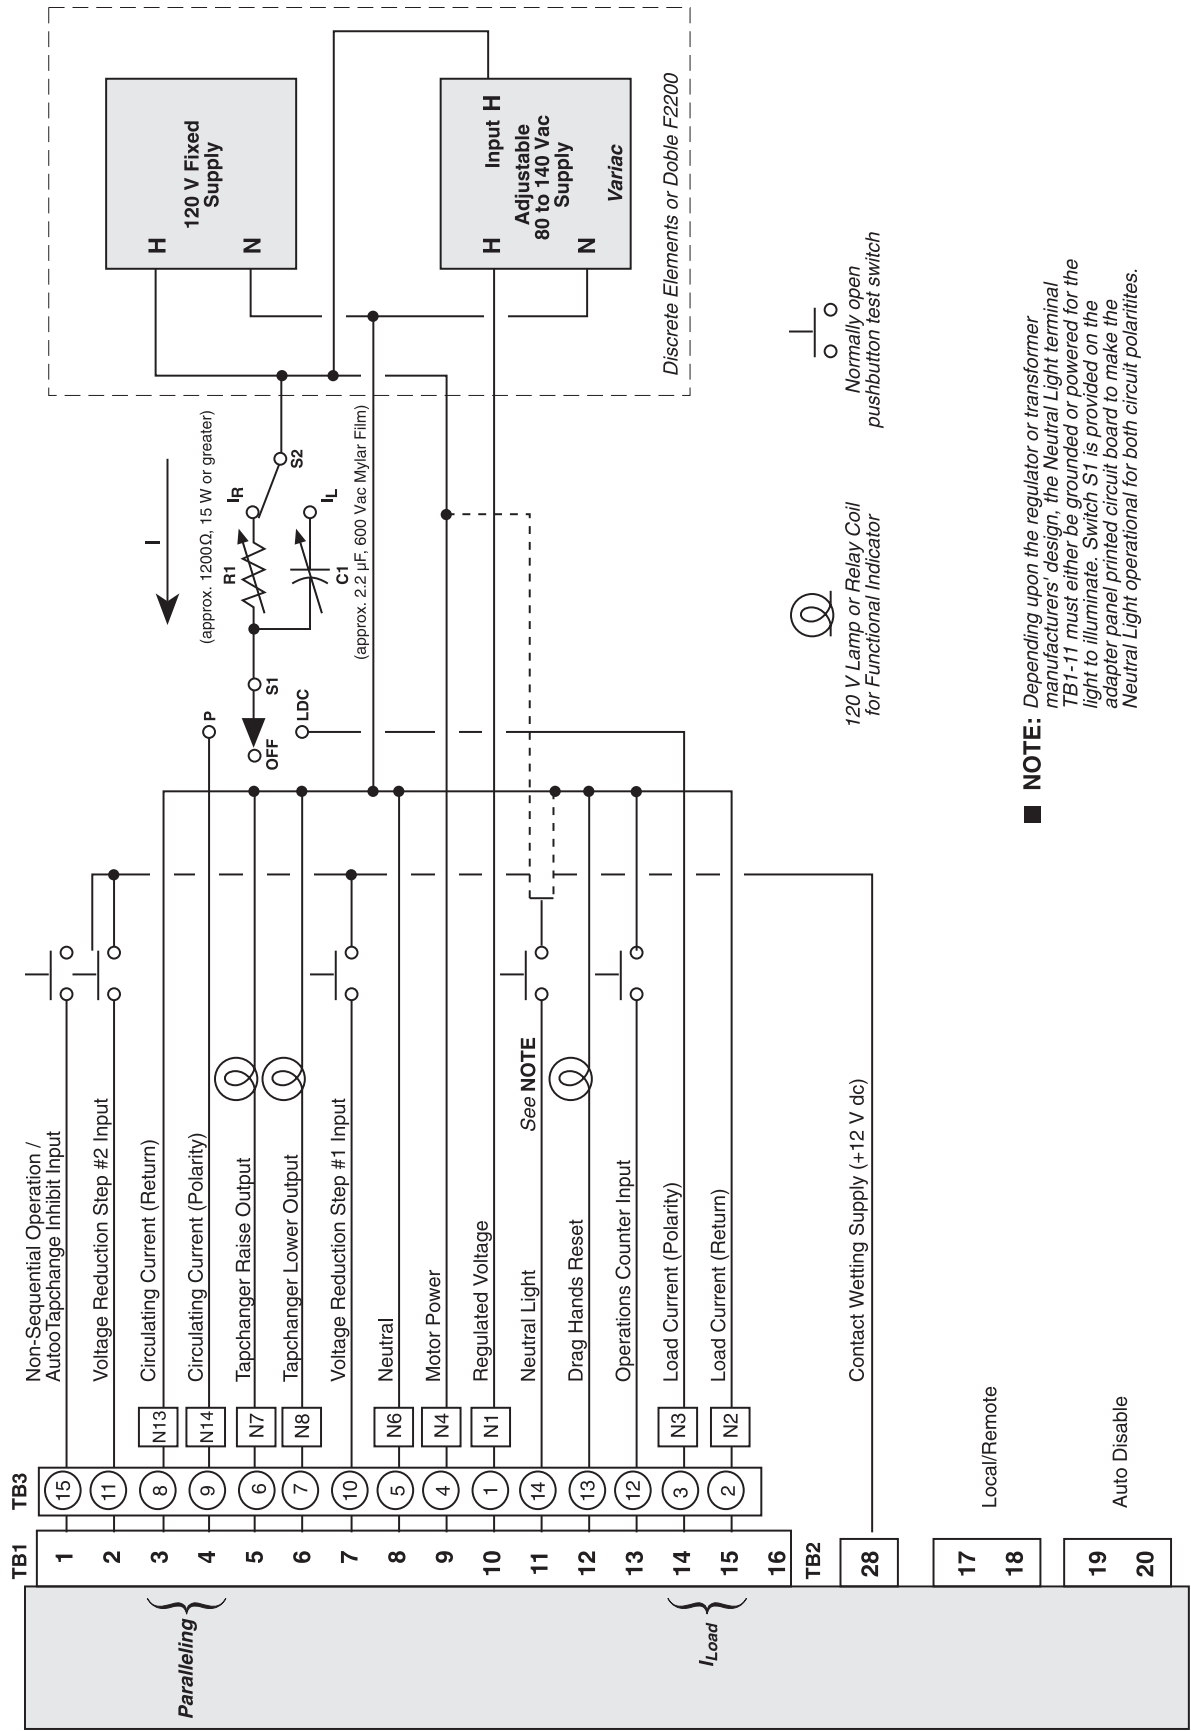

Figure 11 M-2280B Test Procedure External Connection
1. Make the electrical connections as shown in Figure 11.